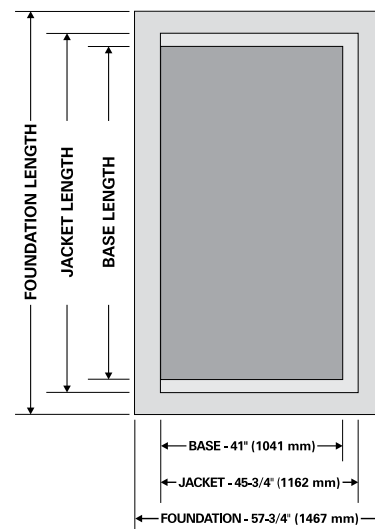

Figure 1.9: Foundation Layout
1. Provide a good, level foundation for the boiler with the minimum dimensions given in Figure 1.9 and Table 1.1. The flooring and structural support system must be suitable for the operating weight of the boiler and any connected piping.